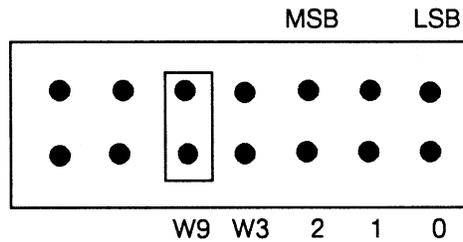

Figure 7-9. Selecting an Installed 170MB Disk Drive as Drive 0, Second Configuration
1. Locate the jumper select connector on the lower-left, rear side (below the power connector) of the disk drive already installed (Micropolis). To make this drive 0 be sure that all three jumper ID pins—ID0, ID1, and ID2—are out. See Figures 7-9 and 7-11.